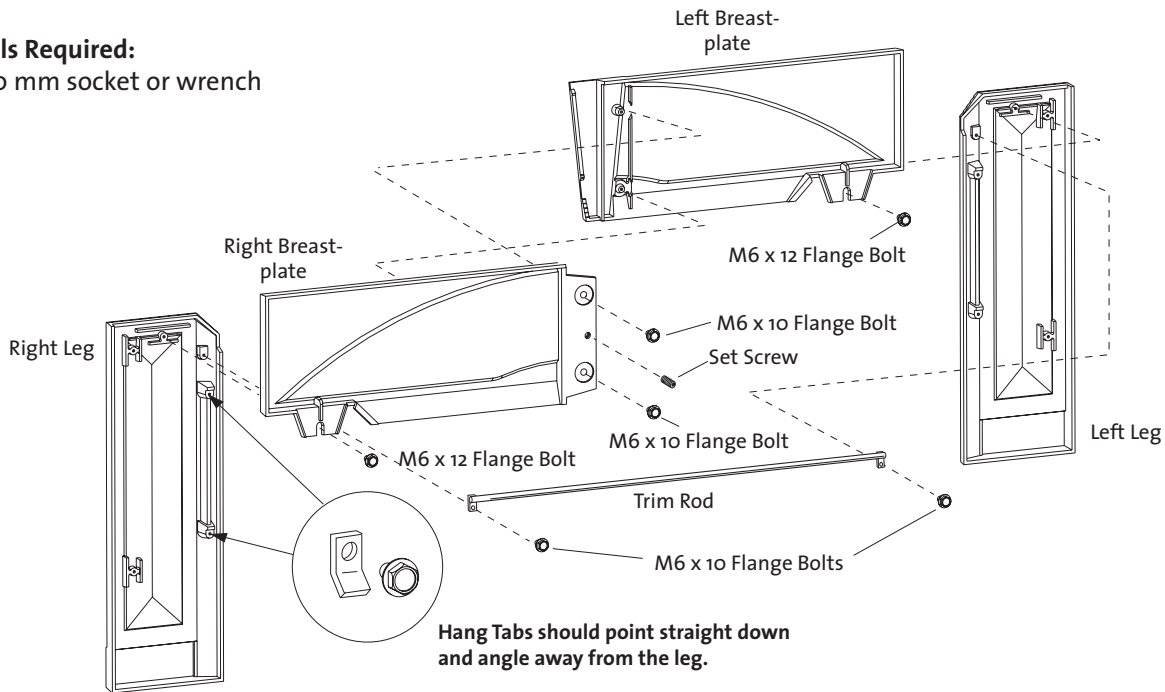

Figure 12. Kennebec Classic Surround Panel Assembly
1. Layout the parts. Place the castings face down on a protective surface such as carpeting, blankets or a sheet of cardboard. See fig. 12, page 12.
3. Attach the Leg plates. The Legs must be oriented with the Hang Tabs on the inside edges as shown in fig. 12. Use the two remaining M6 x 12 hex head flange bolts to attach the Legs to the Breastplate assembly.